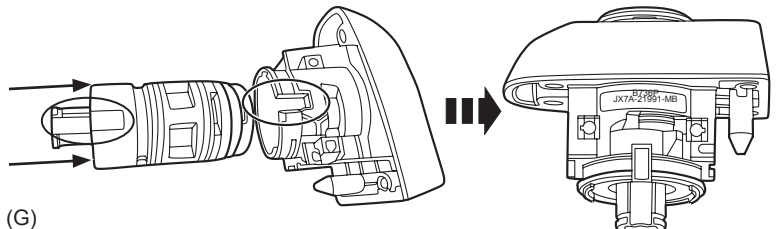

FIGURE 5.2
7. Insert the cylinder into the Sleeve (G), hold the cylinder tail and remove the key (Refer to Figure 5.1). Insert the cylinder/sleeve into the Case (D) for the bigger diameter; to complete the assembly push the sleeve. (Refer to Figure 5.2). Push the sleeve diameter to finish the assembly. Do not push the cylinder tail.